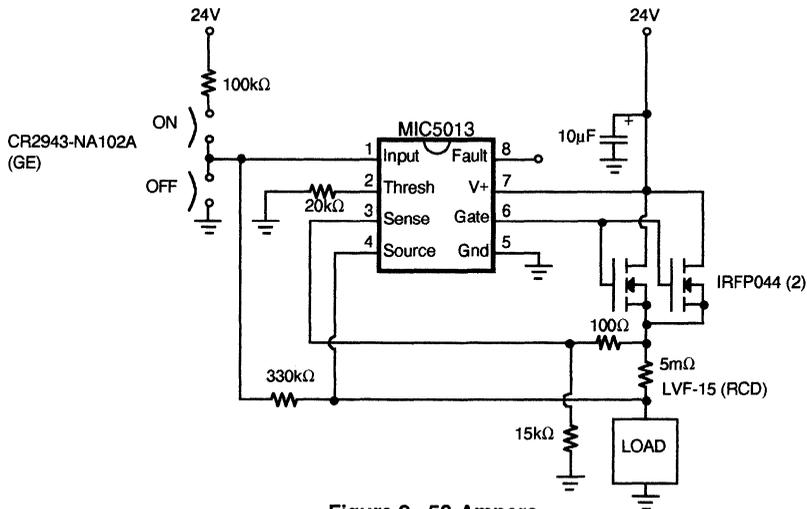

Figure 9. 50-Ampere Industrial Switch
Fault-Protected Industrial Switch (Figure 9). The most common manual control for industrial loads is a push button on/off switch. The "on" button is physically arranged in a recess so that in a panic situation the "off" button, which extends out from the control box, is more easily pressed. This circuit is compatible with control boxes such as the CR2943 series (GE). The circuit is configured so that if